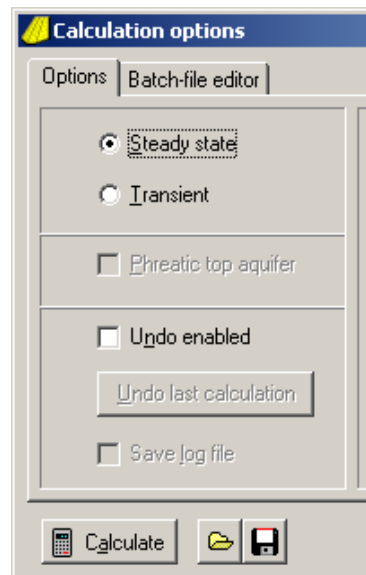

Figure 31: Calculate window (1)
7. From the Main menu, select Calculate → Options. You'll see the following window (Figure 31):